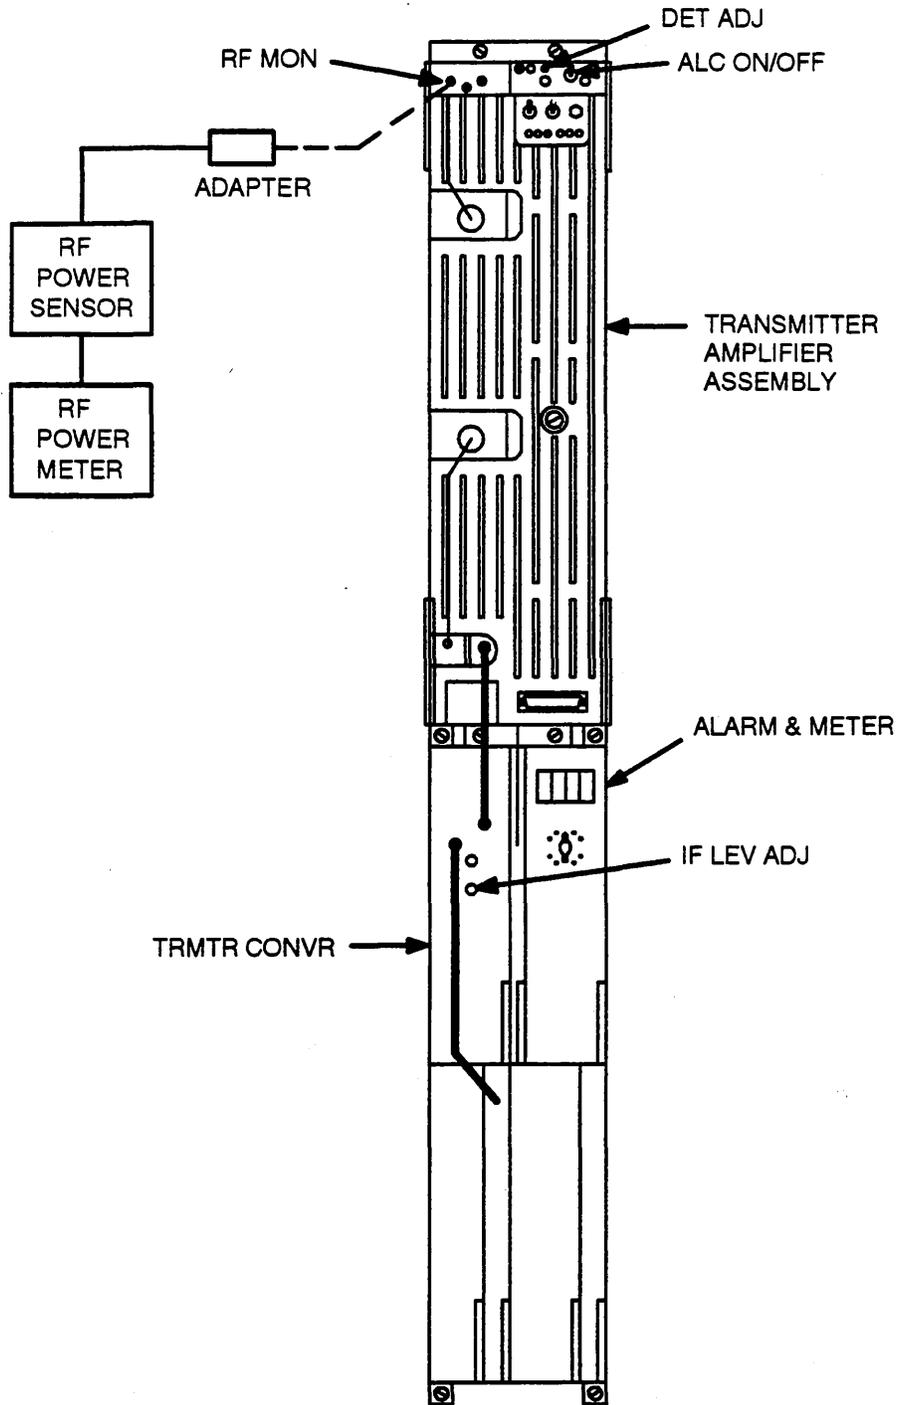

Figure 7-TWT Transmitter Gain Test Connections
- Refer to Figure 7.
5. Condition an RF power meter to measure the expected power level (see the RADIO DATA CARD), and connect the meter to the RF MON jack (Figure 7).